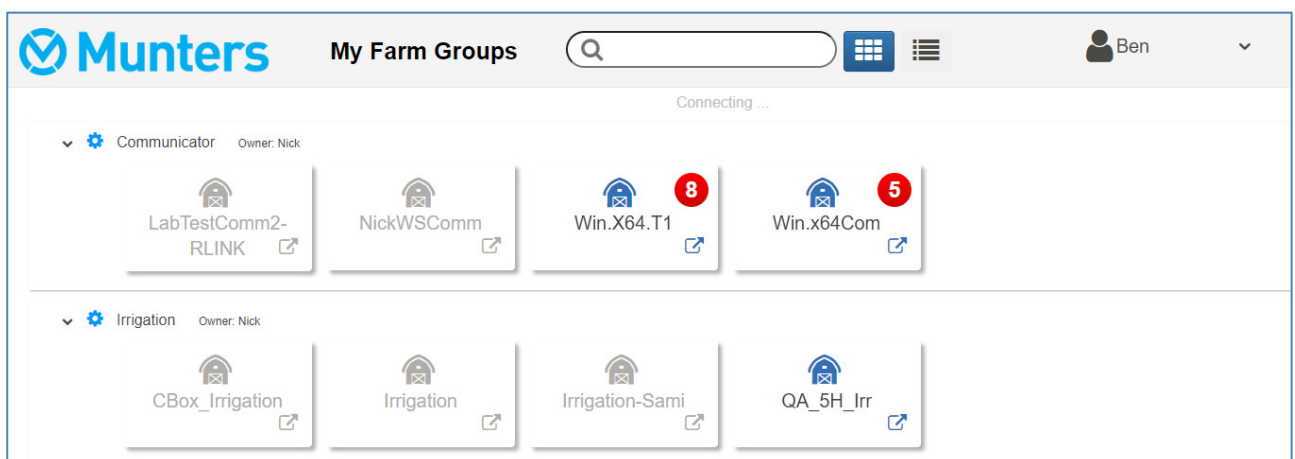
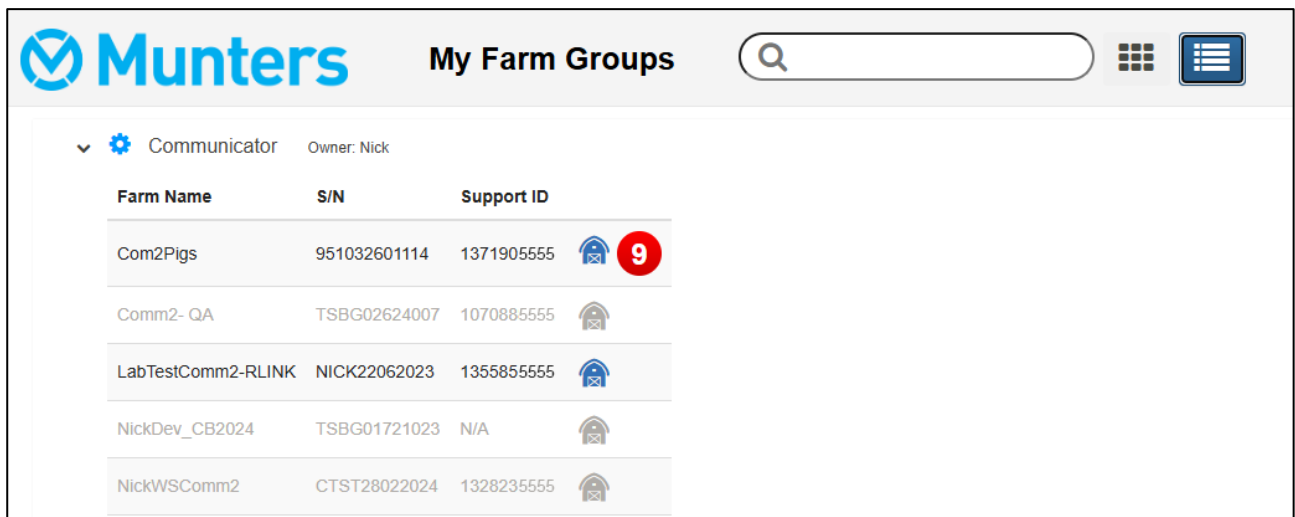

Figure 42: Grid View
Figure 43: List View
- Farms can be displayed in a grid (Figure 42, click ) or in a list (Figure 43, click )